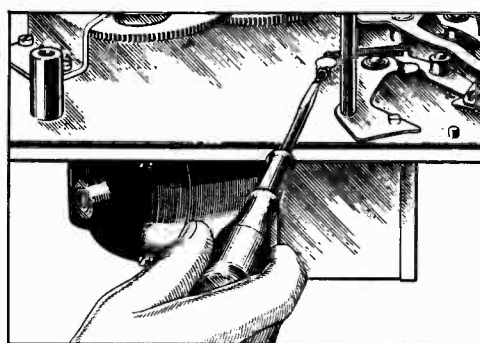

Figure 6—Adjusting tone arm locating screw
- (b) **Improper adjustment of tone arm locating screw.** This adjustment, shown in Figure 6, can be used to make a substitute adjustment for that described in (a), when the mechanism is out of the cabinet. Make the adjustment so that the needle will lower exactly  $\frac{1}{16}$ " from the first groove on a standard 10-inch record. Loosen the lock nut on the adjusting screw by means of a No. 4 Spintite wrench on which the shoulder has been ground sufficiently thin for clearance. *Do not attempt to make this adjustment without first loosening the lock nut.* Tighten the lock nut when the proper adjustment has been made.